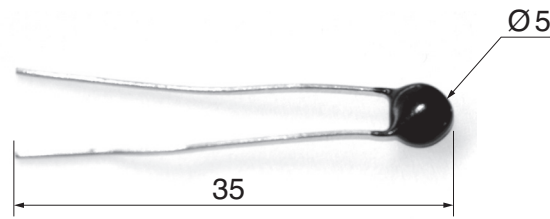

Fig. 9
- 3 The water temperature in a tropical fish tank has to be carefully controlled. Fig. 9 shows the thermistor to be used for sensing the temperature of the water.